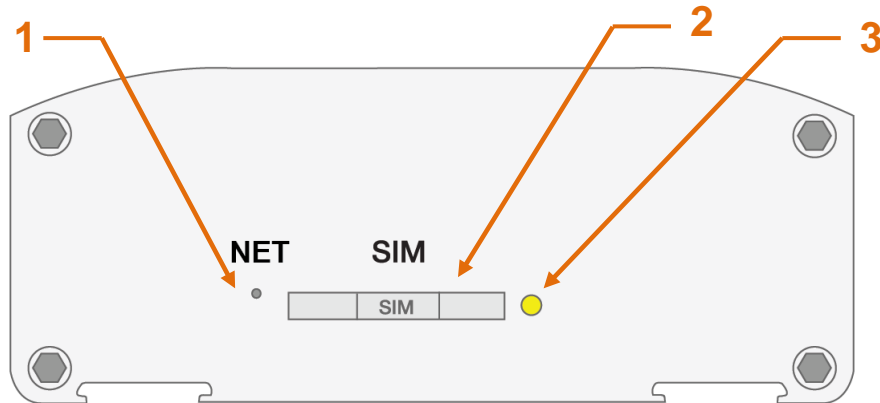
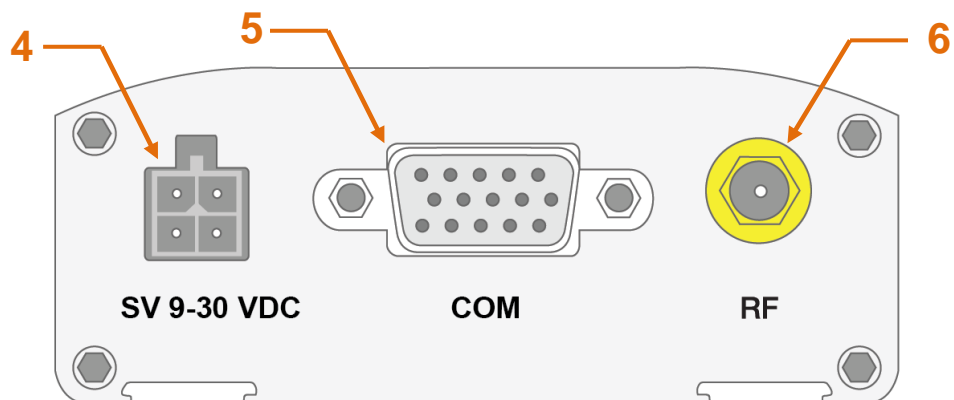

Fig. 2.4.1. Front view
Fig. 2.4.2. Back view
The Q2406B modem is a compact device designed in a durable and light aluminium case. The device appearance is presented in fig. 2.4.1 and fig. 2.4.2:
- remove a SIM card tray pressing the eject button (fig. 2.4.1.);
Connect a GSM antenna and a switching cable. Supply power to the modem, Micro-Flit connector (fig. 2.4.2). If a SIM card is unlocked, the modem is automatically registered after power supply. As soon as the registration is complete the modem switches to an operation mode, the indicator blinks (table 2,6.1).